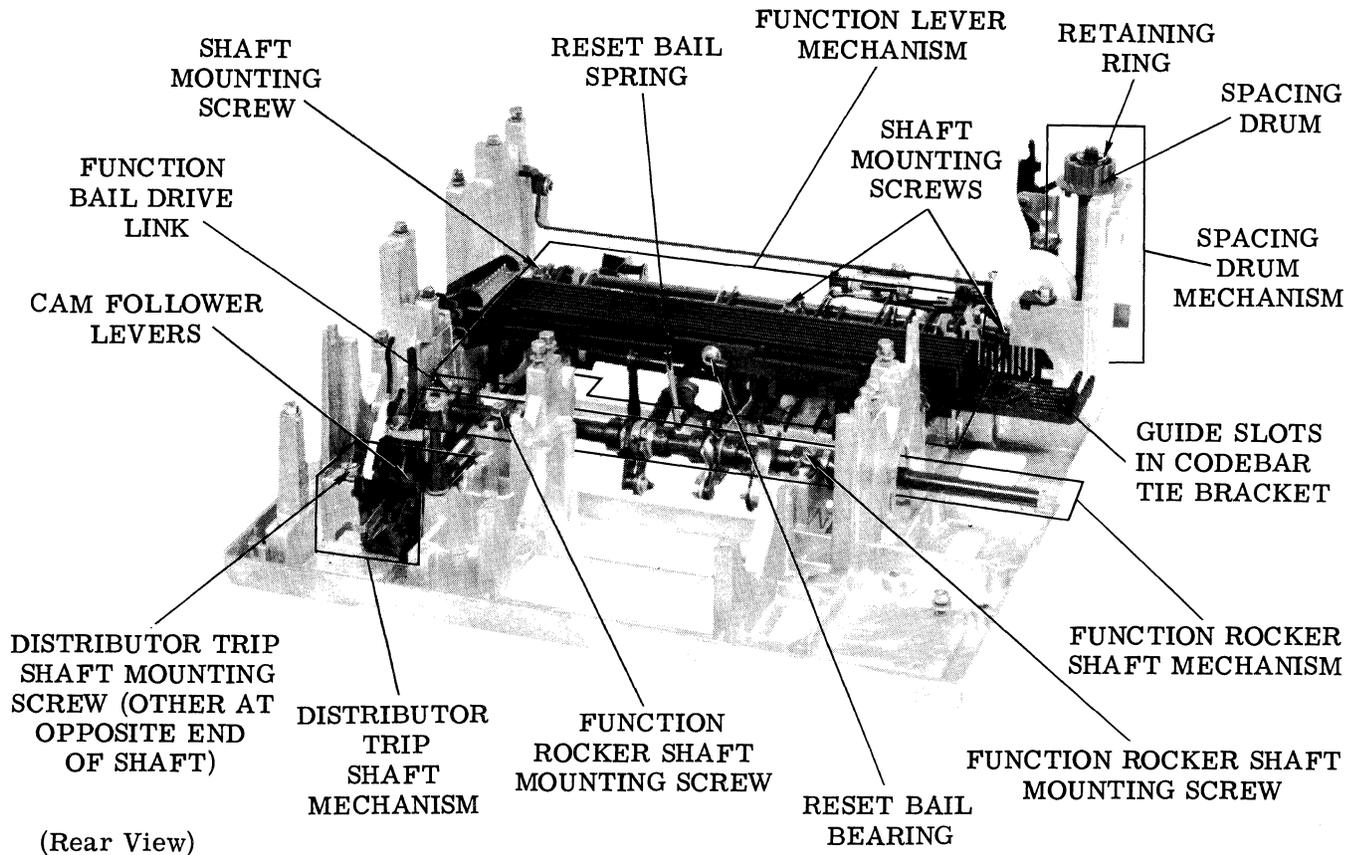

Figure 3 - Typing Unit (A Number of Mechanisms Removed)
- 2.07 To remove function lever mechanism (Figure 3), proceed as follows.
- 2.08 To remove spacing drum mechanism (Figure 3), proceed as follows.
- 2.09 To remove distributor trip shaft mechanism (Figure 3), proceed as follows.
- 2.11 To remove function rocker shaft mechanism (Figure 3), proceed as follows.